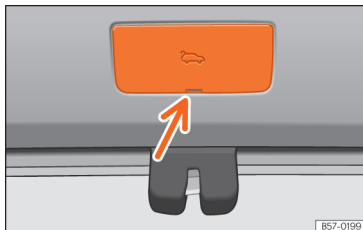
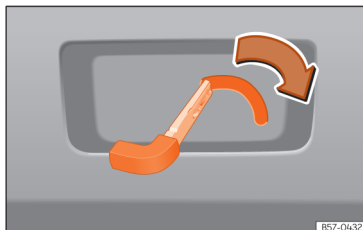

Fig. 90 Detail of the luggage compartment: access to emergency unlocking.
Fig. 91 Detail of the luggage compartment: emergency unlocking
- Lever the cover off with the emergency key »» Fig. 90.
- Insert the emergency key into the slot and move it in the direction of the arrow until the lock unlocks »» Fig. 90, »» Fig. 91.